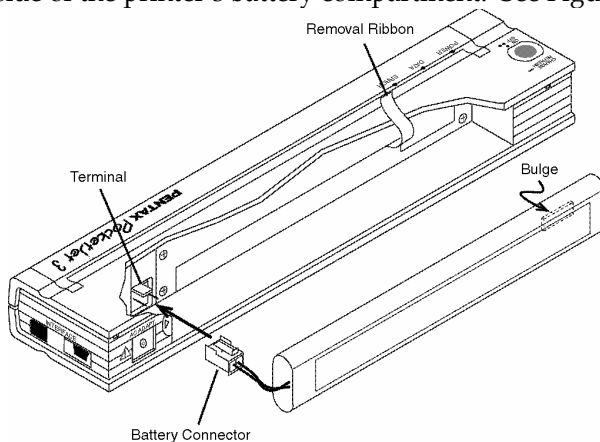

FIGURE 11. Pushing the battery connector into the terminal
3. Gently push the battery connector into the terminal on the inside of the printer's battery compartment. See Figure 11.
CAUTION: *Do not force the battery connector into the terminal. If you are having difficulty inserting the connector, make sure the connector is not upside down. See Figure 11.*